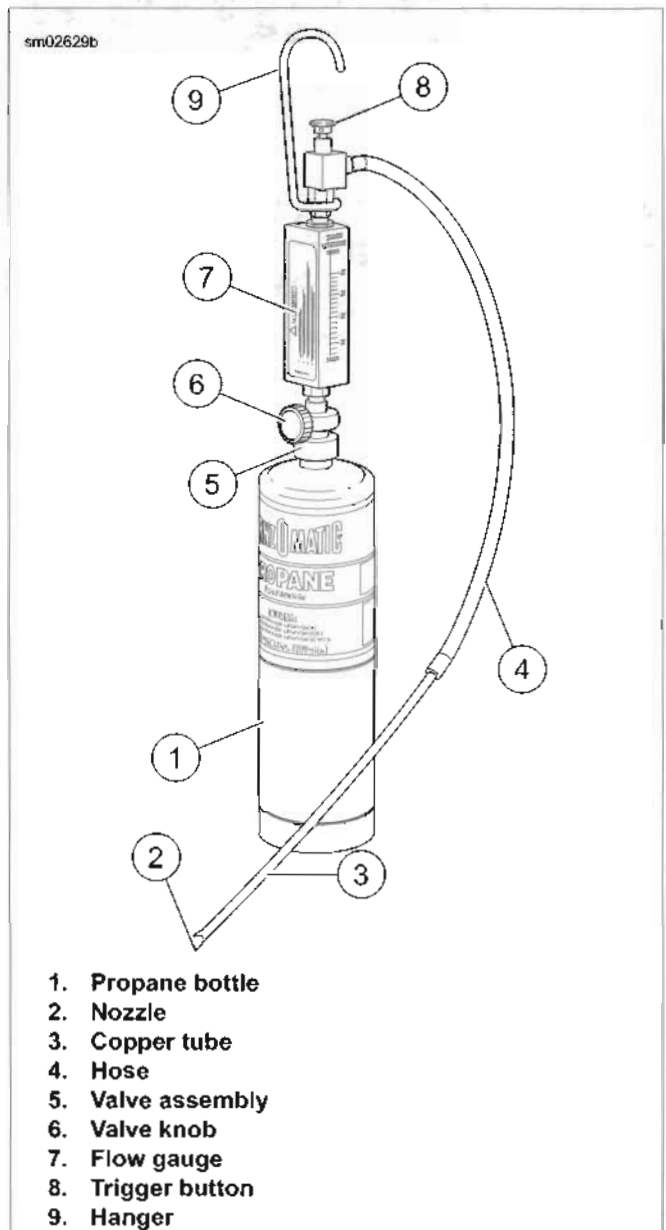

Figure 4-51. Leak Tester
1. See Figure 4-51. Make sure valve knob (6) is closed (fully clockwise).
2. Install valve assembly (5) onto propane bottle (1).
1. See Figure 4-51. Press and hold trigger button (8).
2. Slowly open valve knob (6) until pellet in flow gauge (7) rises 5-10 SCFH on gauge.